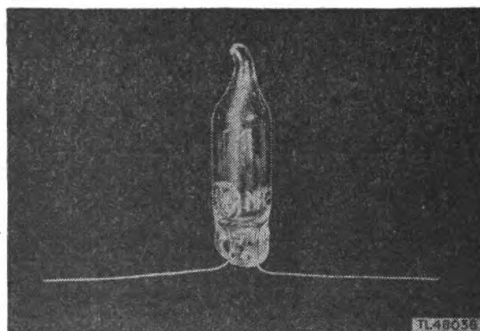

Figure 22. Lamp LM-54.
24. LAMP LM-54 AND CASE (figs. 22 and 23).